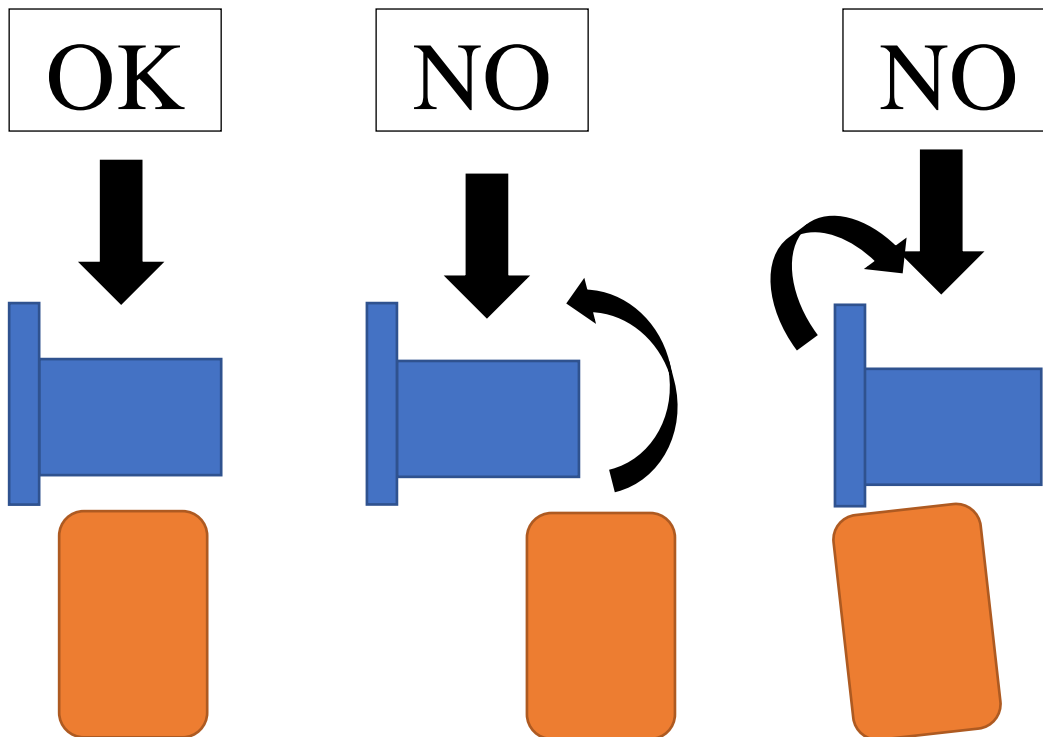

Fig. 11b
- a) Place the log vertically and sitting flat onto the support table. Be sure the wedge and support table will contact the log squarely on the ends. Never attempt to split a log at an angle (Fig. 11b).